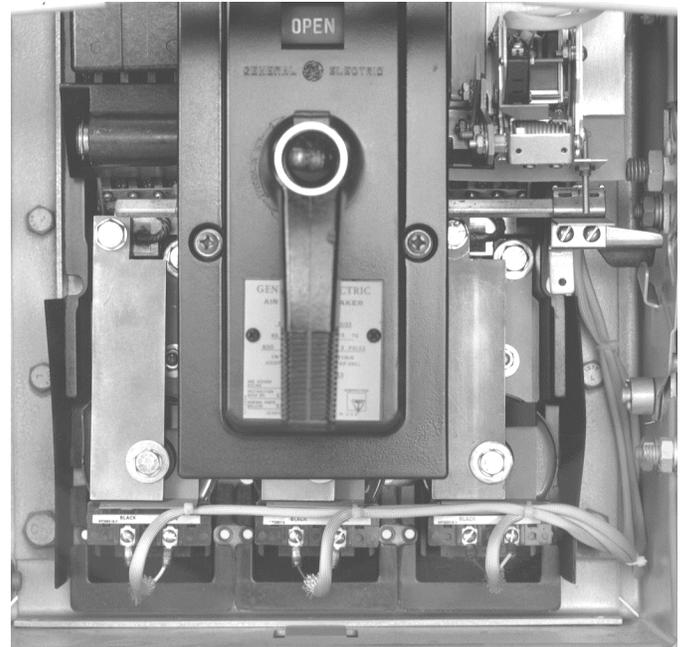

Figure 16. Wiring harness installation.
2. Connect the harness leads to the screw terminals on each CT, as shown in Figure 16. The black wire (tap) connects to the left terminal and the white wire (common) to the right terminal.